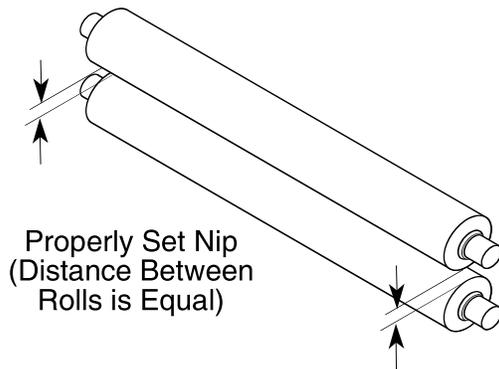

Figure 4-5: Properly Set Nip
- Adjust the nip by turning the adjusting bolt using an  $\frac{3}{4}$ " open end wrench (clockwise to lower the roll end and counter clockwise to raise the roll end). Adjust the ends of the upper main roll until there is an even gap between the rolls as shown in Figure 4-5.